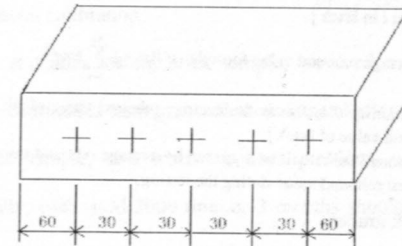

Figure 3
Test points as figure 3, five test points at each long side of each brick,
① Refer to figure 3: Let rebound pole(2) reach out, unscrew cover cap(31), demont dust felt ring(3) and semicircular clasp(4), unscrew end cover(16), take out the compression spring(17), move rebound hammer to rear end, unhook and take out.
② Rebound hammer(27) knock rebound role(2) lightly, the rebound role will leave from center rod, take out the buffer spring(29), unscrew the rebound hammer(27) from the center rod(10), update the tension spring(5) if necessary.
③ Washing all active components carefully, specially note the contact area between center rod (10) and rebound pole (2). Clean the holes in rebound pole and rebound hammer and the collision area with metal brush.
④ Insides of shell, feather key and pointer axis should be cleaned too.
- ⑤ After cleaning, install all component by reversed procedures from above, don't miss buffer spring(29) and dust felt ring(3), the center rod should be lubricated with watch oil before installing back.
- ⑥ After installing finished, test pointer slider friction, its value should be 0.4N-0.6N.
- ⑦ The last step, calibrate the test hammer on steel anvil, rebound values should be  $R_m=74\pm 2$ .
- ⑧ Don't change any dimension of component.
- ⑨ After using, clean surface, push rebound role back into body and unhook rebound hammer, lock test hammer, put into package and store in dry shady place.